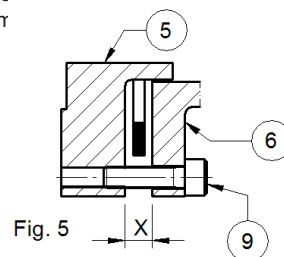

Fig. 5
2. It may be necessary to compress the transmission unit whilst sliding it between the hubs. Facilities are provided to make this easier. The spacer flanges are drilled (4 holes in each flange) to allow compression bolts (ref. 9) to be threaded into the guard ring. Tightening evenly will compress the transmission unit until clearance between the hub spigots and length of the transmission unit is achieved, allowing installation. (see Figure 5). Minimum gap of X should not be less than the values shown in Table 1, unless indicated otherwise on the general arrangement drawing.